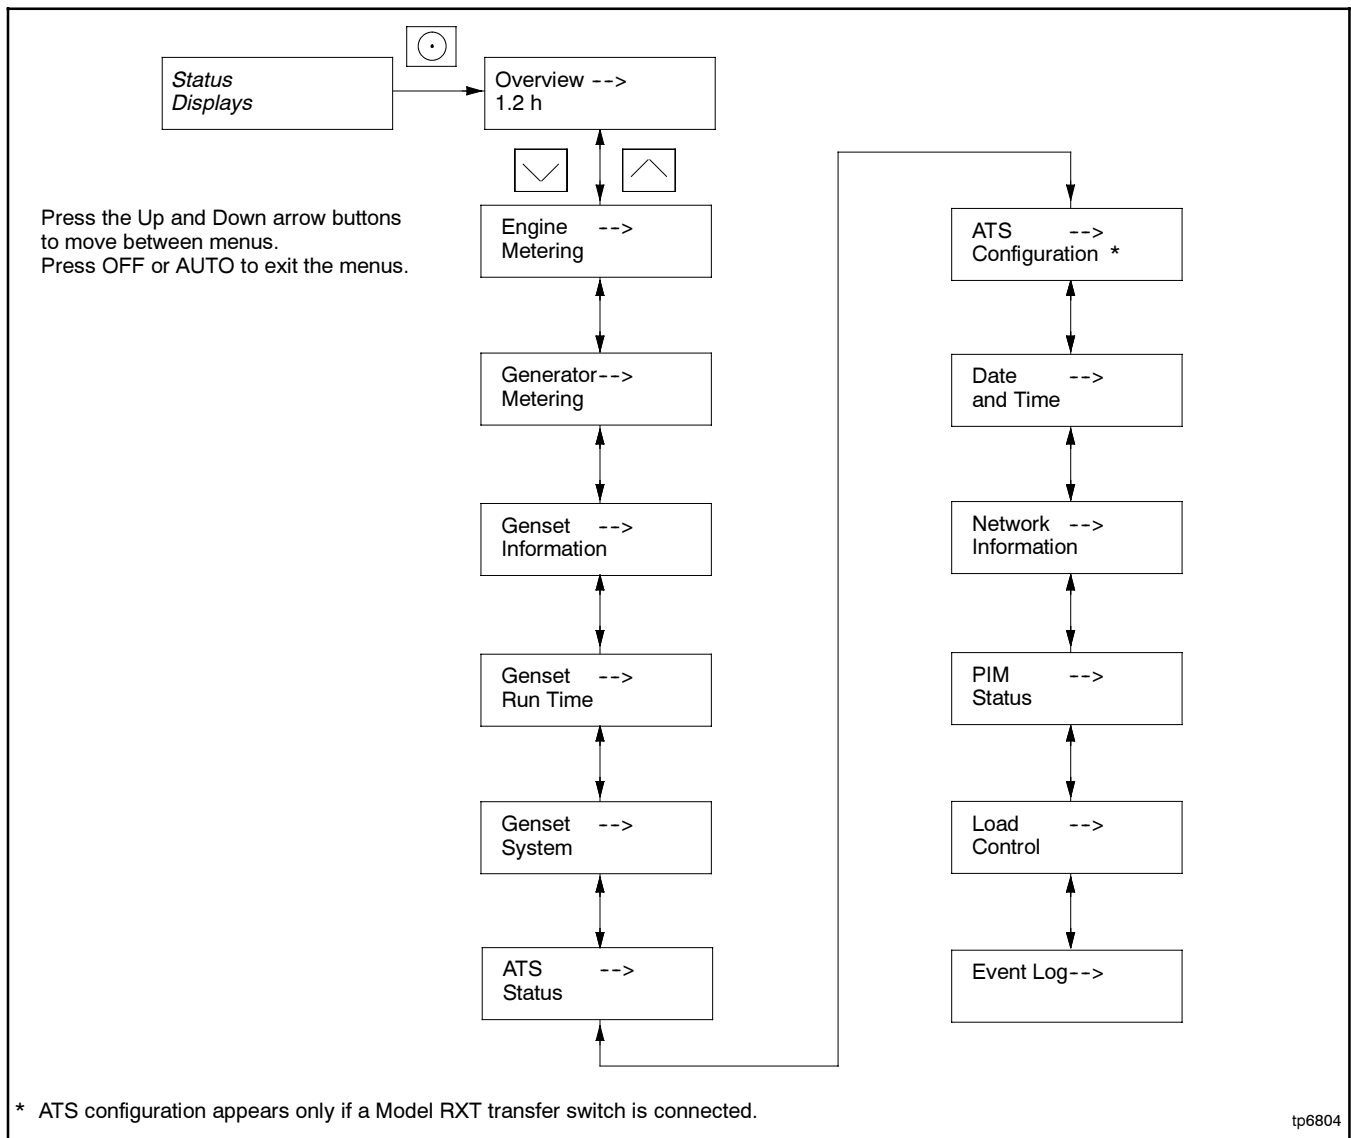

Figure 3-8 RDC2 Main Menu
2. Press the down arrow button until the desired menu is displayed. See Figure 3-8. Date and Time are used for this example.
Press the Select button once to bring up the main menu. Overview is displayed. See Figure 3-8. Press the down arrow button to step to the next menu, Engine Metering. Use the UP and DOWN arrow buttons to step up and down through the menu shown in Figure 3-8.